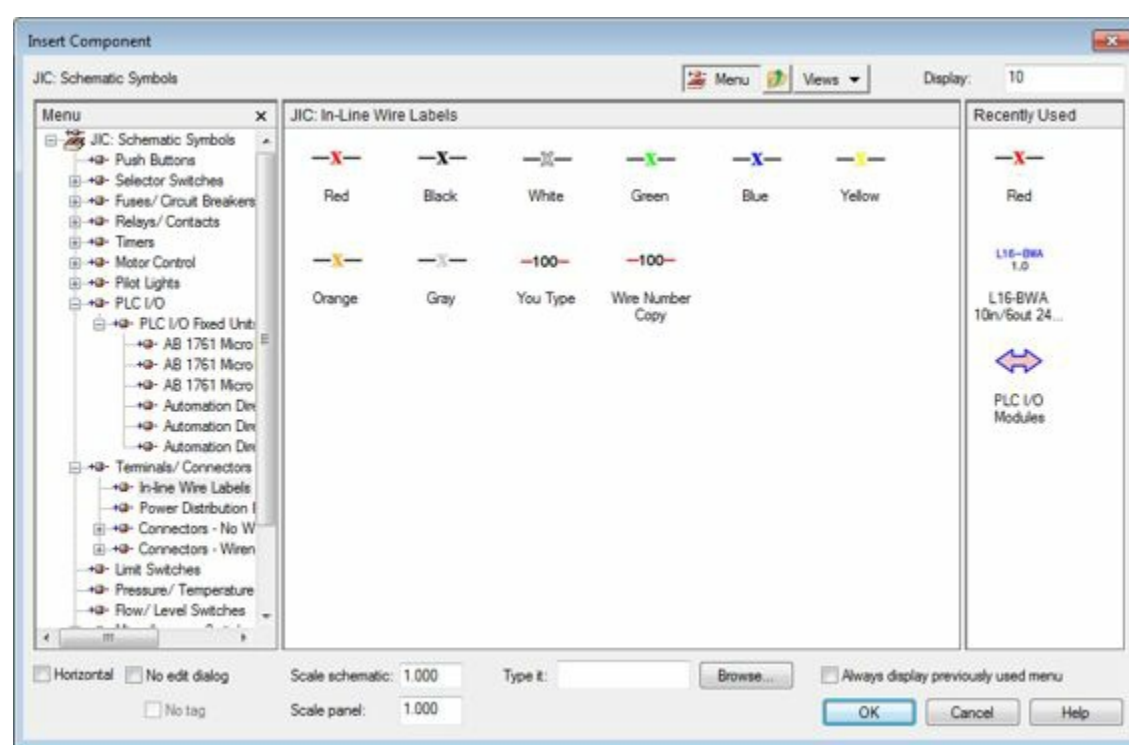

Figure-58. Insert Component dialog box
57. The Insert Component dialog box with wire labels will be displayed; refer to Figure-58.